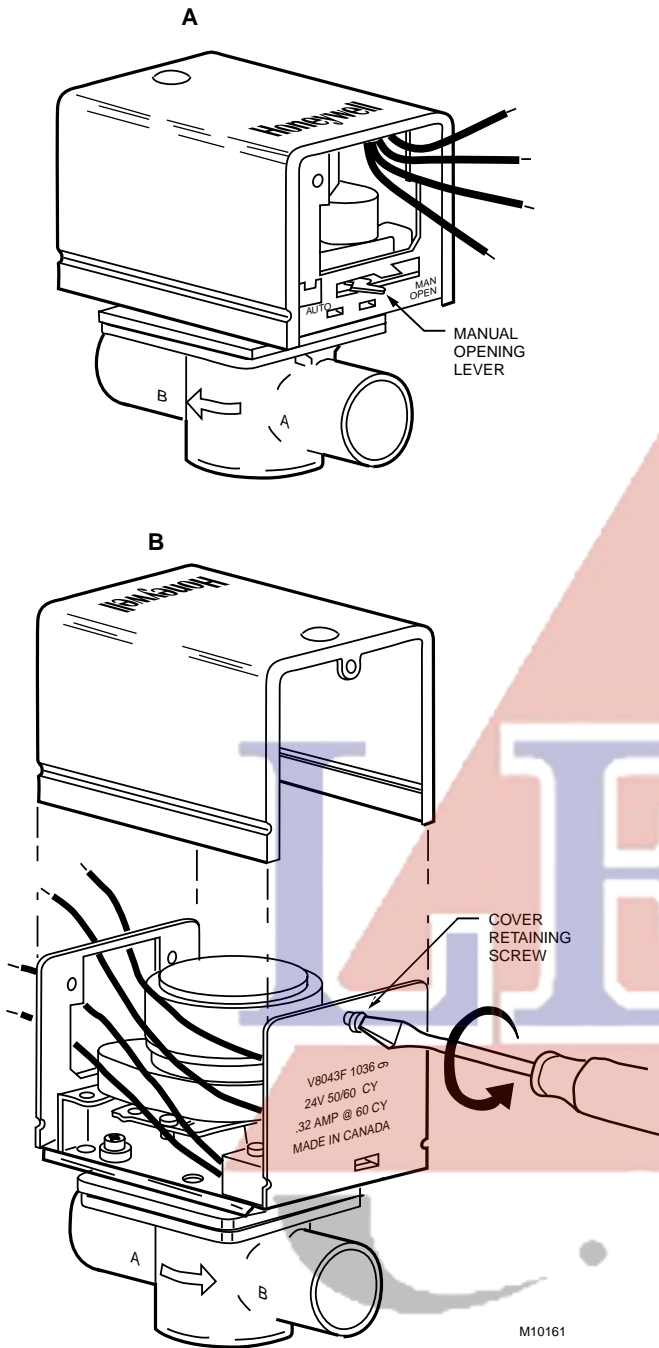

Fig. 13. Remove old powerhead from systems using new style valve bodies.
- 3 Remove the old powerhead (see Fig. 13):